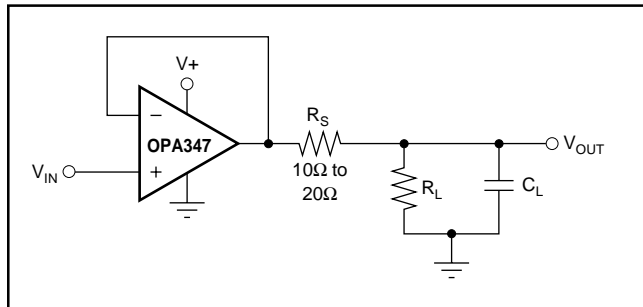

FIGURE 6. Series Resistor in Unity-Gain Buffer Configuration Improves Capacitive Load Drive.
The OPA347 in a unity-gain configuration can directly drive up to  $250\text{pF}$  pure capacitive load. Increasing the gain enhances the amplifier’s ability to drive greater capacitive loads (see the characteristic curve “Small-Signal Overshoot vs Capacitive Load”). In unity-gain configurations, capacitive load drive can be improved by inserting a small ( $10\Omega$  to  $20\Omega$ ) resistor,  $R_S$ , in series with the output, as shown in Figure 6. This significantly reduces ringing while maintaining DC performance for purely capacitive loads. However, if there is a resistive load in parallel with the capacitive load, a voltage divider is created, introducing a Direct Current (DC) error at the output and slightly reducing the output swing. The error introduced is proportional to the ratio  $R_S/R_L$ , and is generally negligible.